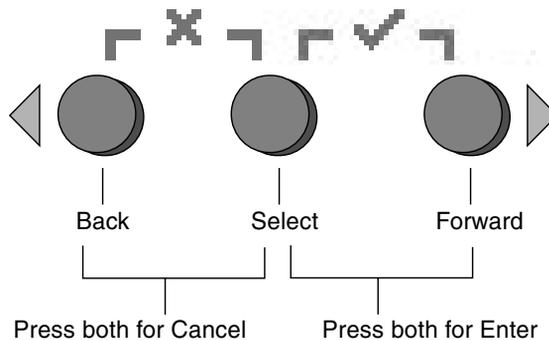

FIGURE 1-6 Operator-Panel Buttons
1. **Press any operator-panel button on the server front panel (see FIGURE 1-6).**
1. Press any operator-panel button on the server front panel (see FIGURE 1-6).